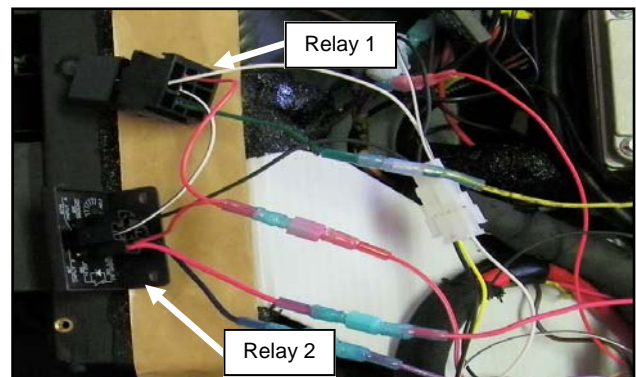

Fig. 2.12a (Install Timed Relays to Relay Harness)
- 2.12** Install one of the relays removed in STEP 2.10 into socket 1 of the relay harness. Figure 2.12a.